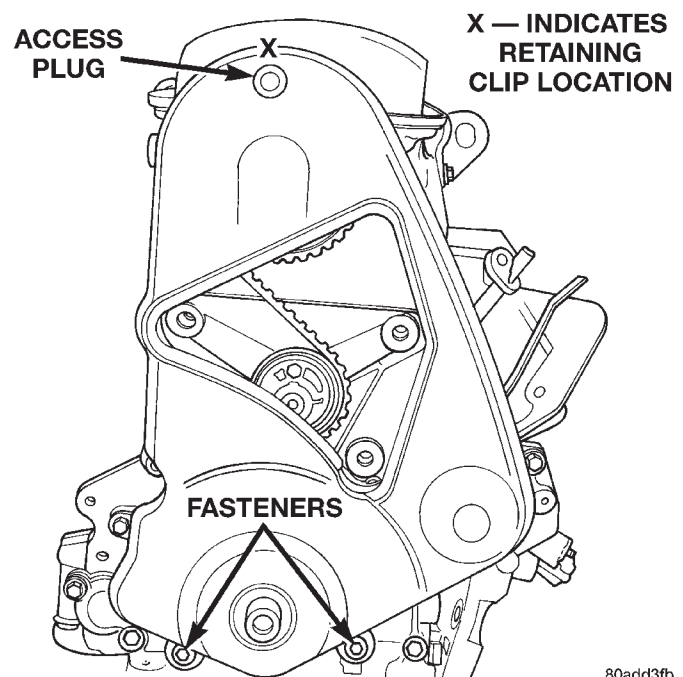

Fig. 35 Timing Belt Cover
- (8) Remove front timing belt cover (Fig. 35).